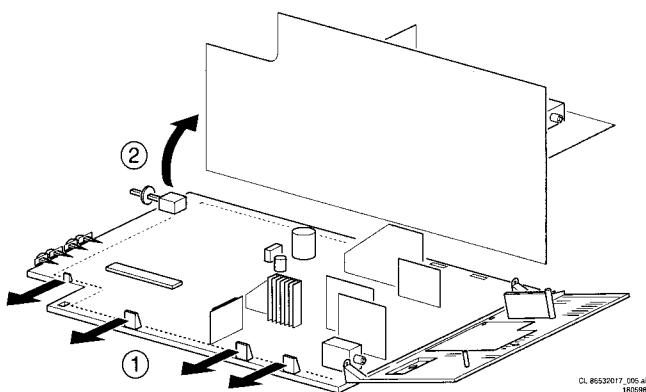

Figure 4-5
4.2.5 Repairing the mono carrier (figure 4.5)